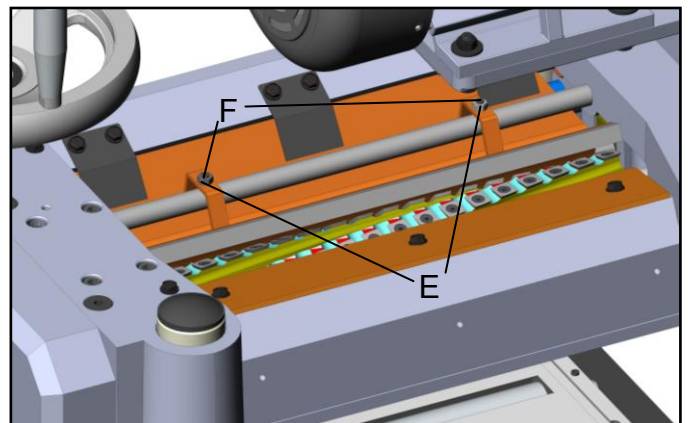

Fig. 25
5. If an adjustment to the chip breaker is necessary, loosen nuts (E, Fig. 25), and turn screws (F) until the bottom of the chip breaker just touches the gauge block. Then tighten the nuts (E).